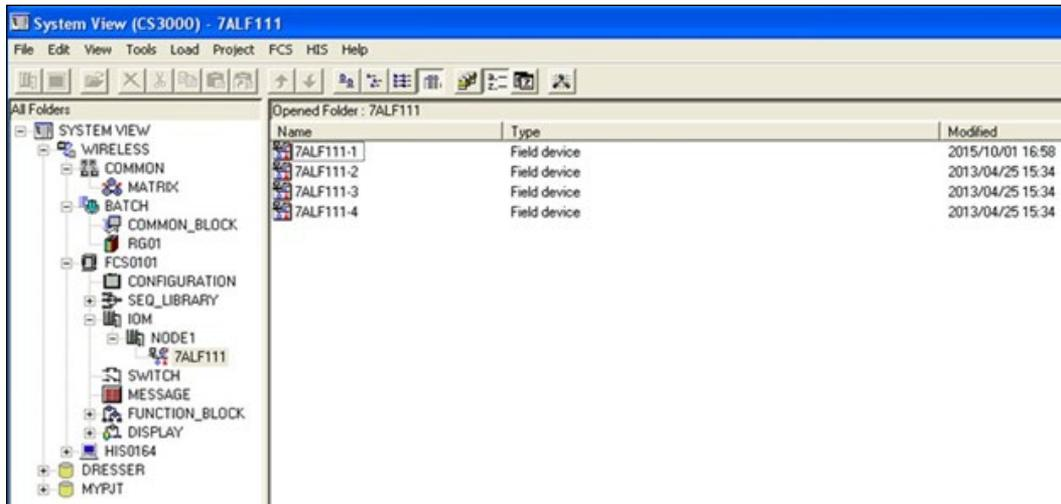

Figure 69 - Example of Fieldbus Interface Module in System View
1. Navigate in the System View application to the FF interface module. Figure 69 provides an example.